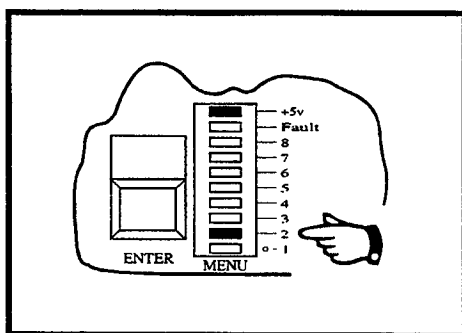

Figure 3-7
- (b) Press the **FUNCTION** key **TWICE**. The LED segment labelled **2** on the **Menu** display should illuminate. This identifies the SPAN menu function. See Figure 3-7.
- (o) Press the blue **FUNCTION** key **TWICE**. The segment labelled **2** on the **Menu** display should illuminate. This segment identifies the SPAN menu function. See Figure 3-7.
- (f) Press the blue **FUNCTION** key **TWICE**. The **Menu** display should cease scrolling and the segment labelled **2** should illuminate. This segment identifies the SPAN menu function. See Figure 3-7.